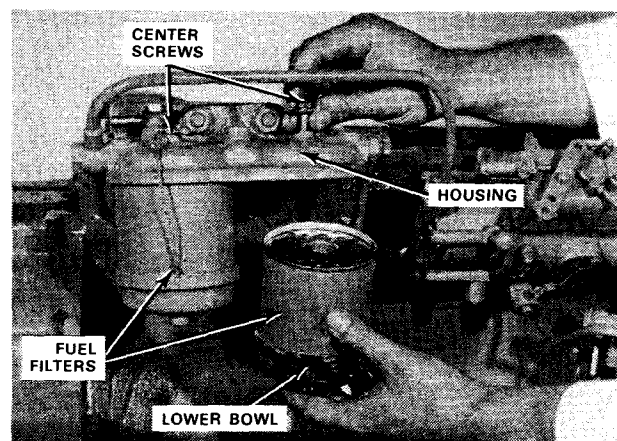

FIG. 28 Replacing In-Line Fuel Filters—Typical
2. Loosen the center screws at the top of the housing and remove the fuel filters and lower bowls (Fig. 28). Remove the filter O-rings and gaskets.